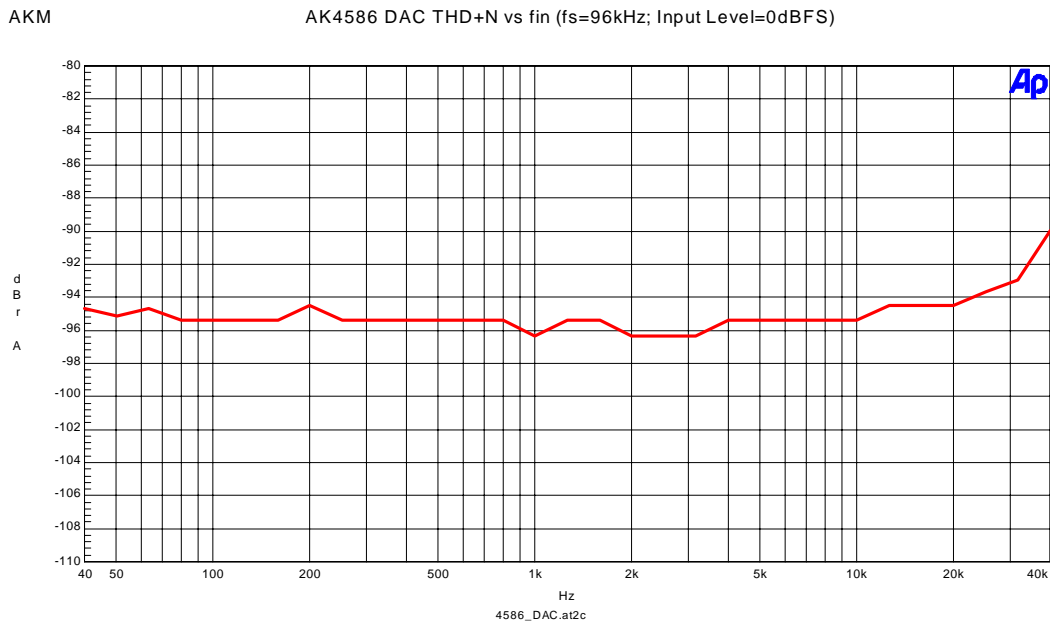

Figure 4-7. THD+N vs fin (Input Level=0dBFS)
- Figure 4-7. THD+N vs fin (Input Level=0dBFS)